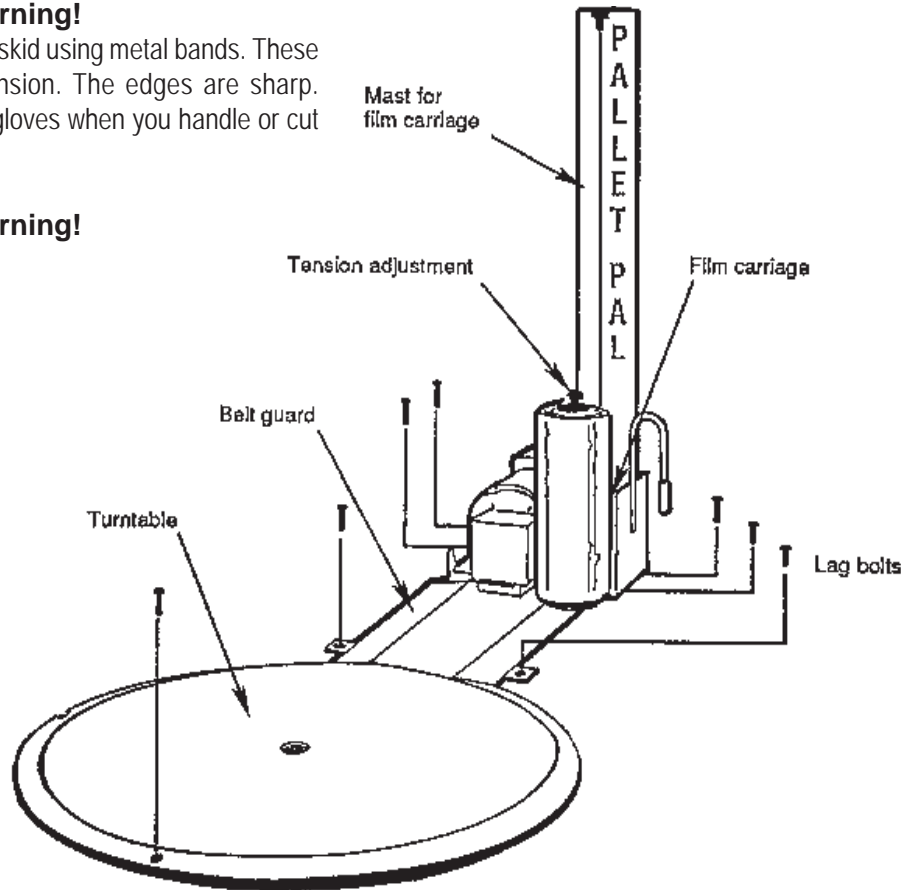

Fig. 1
Do not try to use this machine with damaged or broken pallets. Broken pallets may have boards or nails, which hang down below the main part of the pallet. As the pallet is turned, these boards or nails may catch on the belt guard. See Fig. 1. This can cause the pallet to stop turning suddenly, and this can cause the load to shift. You may be injured, and the machine may be damaged. Boards or nails may extend up to 1/8 inch below the bottom of the pallet. If necessary, you can raise the bottom of the pallet by placing spacers on the turntable. Use pieces of 2" x 4" lumber, about 36" long. Don't use small blocks to support the pallets - these may not be stable when the load begins turning.
Do not use the machine without tightening the bolts, which hold the tower and film carriage assembly. See Fig. 1. If you do not do this, the tower may fall when you try to raise the film carriage. You may be injured, or the machine may be damaged.
Once the tower has been attached, the machine must be anchored before you use it. The machine has holes for 7 lag bolts. See Fig. 1.
pallets. Broken pallets may have boards or nails that hang down below the main part of the pallet. As the pallet is turned, these boards or nails may catch on the belt guard. See Fig. 1. This can cause the pallet to stop turning suddenly, and this can cause the load to shift. You may be injured, and the machine may be damaged. Boards or nails may extend up to 1/8 inch below the bottom of the pallet. If necessary, you can raise the bottom of the pallet by placing spacers on the turntable. Use pieces of 2" x 4" lumber, about 36" long. Don't use small blocks to support the pallets - these may not be stable when the load begins turning.
3. Press the footswitch to start the turntable rotation. Some pallets tend to sag a bit at the corners. The corners may hit the sides of the belt cover. See Fig. 1. If the corners hit, stop the machine and place blocks under the pallet to raise it.